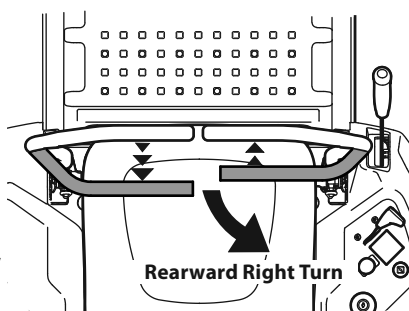

Figure 26
2. To turn to the right while traveling in reverse, move the right drive control lever forward of the left drive control lever. See Figure 26.